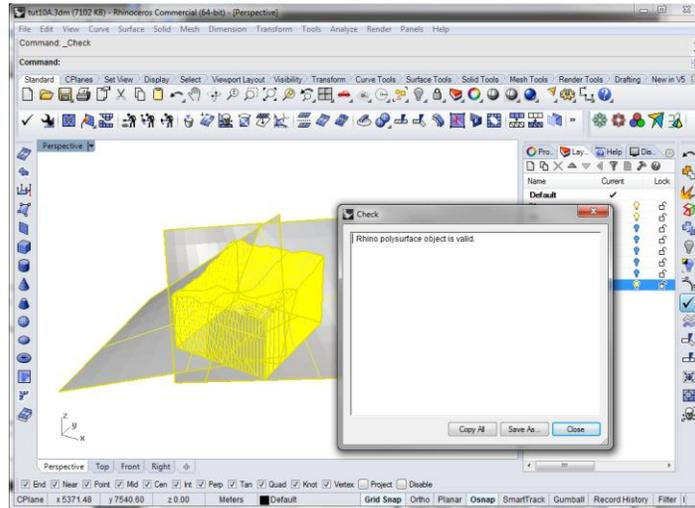

Figure 163: Check after `tetExtendSlits` is run.
3. Select the non-manifold Polysurface and type `_testExtendSlits` in the command line. This will yield a valid non-manifold Polysurface. `_Check` to verify that it is indeed valid (Figure 163).